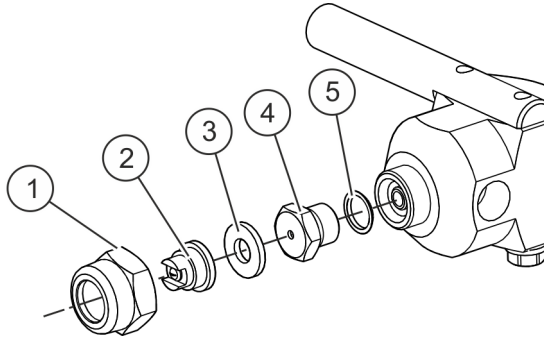

Fig. 11: Valve seat screw and material nozzle
3.  Unscrew the nozzle nut ( Fig. 11/1).
4.  Remove the seal material nozzle ( Fig. 11/2) and seal ( Fig. 11/3).
5.  Completely unscrew the valve seat screw ( Fig. 11/4).
6.  Take out seals ( Fig. 11/5).